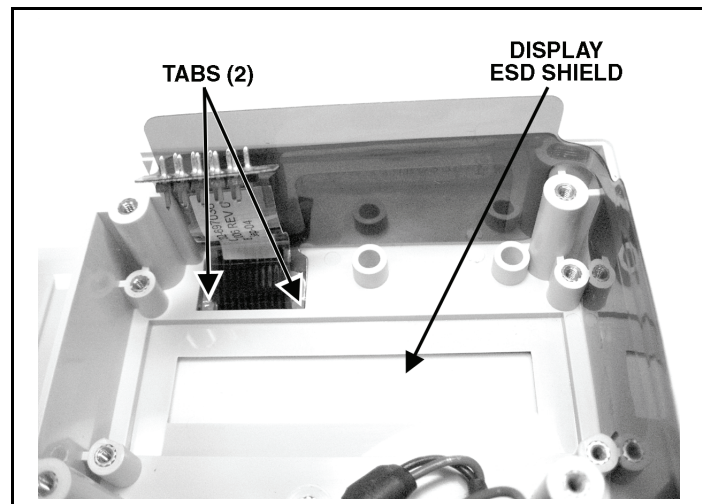

Figure 6-17. ESD Tabs & Shield Positioning
6. Refer to Figure 6-17. Make sure the two tabs of the ESD Flex Shield are placed in the recess edge of the slot for the 10-pin keypad cable as shown.
3. Refer to Figure 6-17. Place the Display ESD Shield into the recess around the display opening.